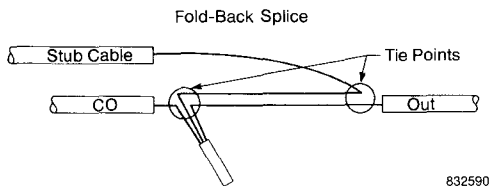
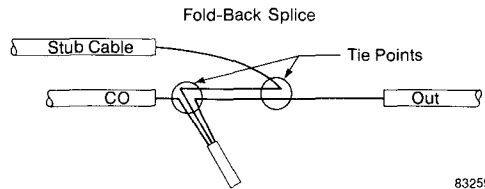

Fig. 88—Add slack to bridge cable with double foldback method.
Fig. 89—Alternate method for adding slack.
- b. To provide slack for the modules falling opposite the bridge cable side of splice, either double-foldback these groups (see Figure 88) or tie them in the center. See Figure 89.